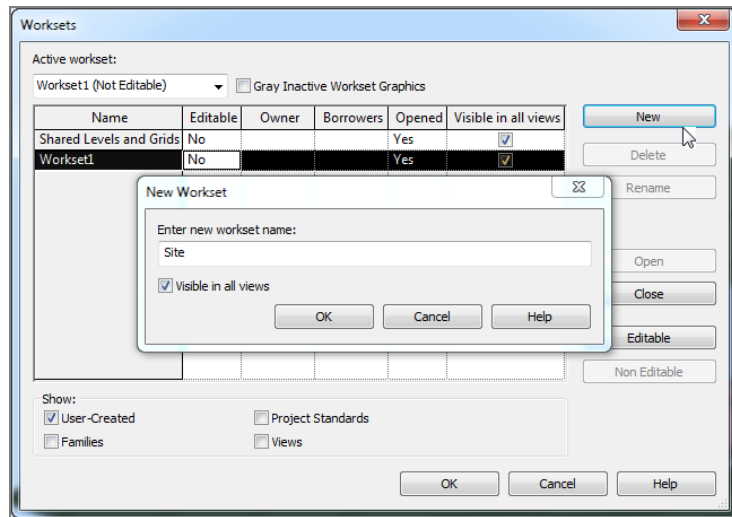

FIGURE 22.9: Creating a new workset
2. In the Worksets dialog box, click the New button, as shown in Figure 22.9.
3. In the New Workset dialog box, call this workset Site (see Figure 22.9), and then click OK.